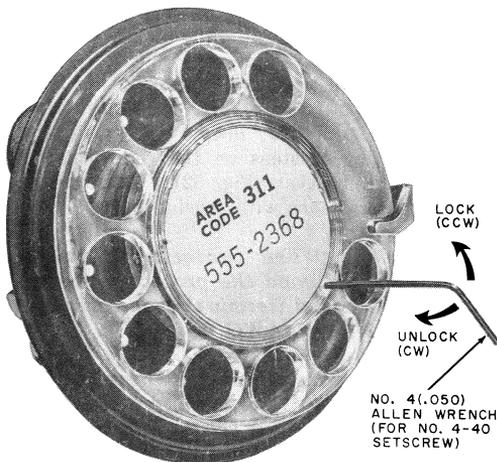

Fig. 26—Installing Fingerwheel on 8U (MD), 8W (MD), or 8WA Dial
- (1) Refer to Fig. 26 use an Allen wrench and turn the setscrew in a clockwise direction until it clears fingerwheel.
- (1) Ensure that setscrew is all the way in (clockwise).
- (2) Place fingerwheel on dial with operator hole over the 9 position.
- (3) Rotate fingerwheel counterclockwise until it is in its normal position.
- (4) Using an Allen wrench, turn the setscrew in a counterclockwise direction until the stop is reached (Fig. 26).